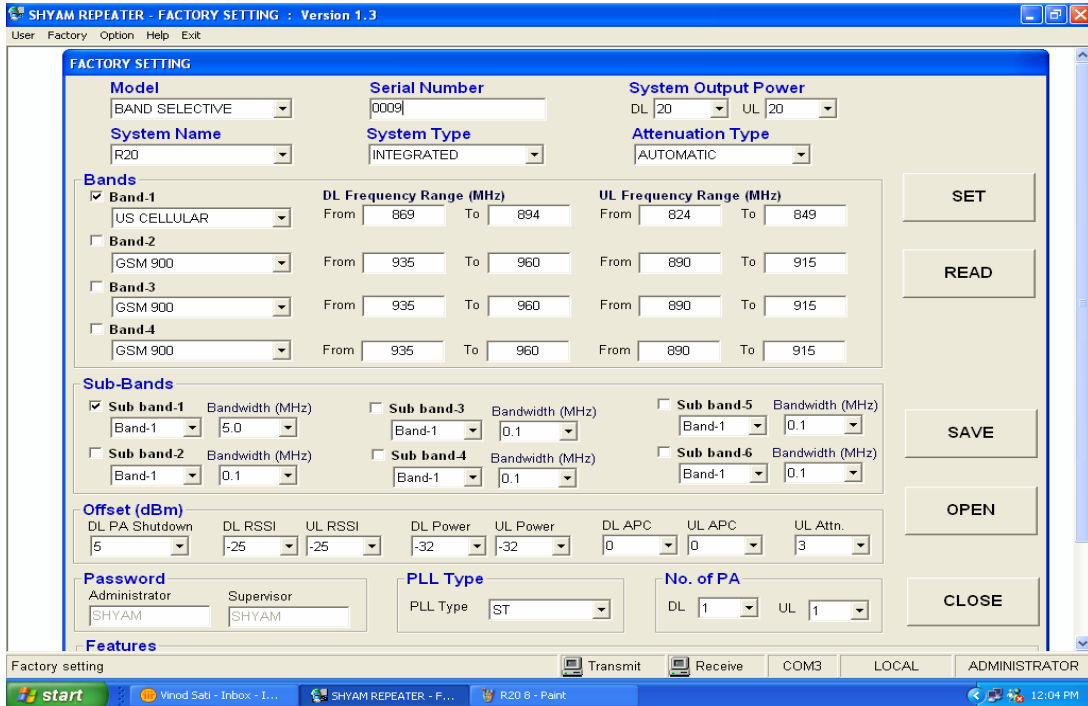

Figure 8: Different Parameters Settings (DL Path only)
f) Other Parameters Settings (Figure 8)